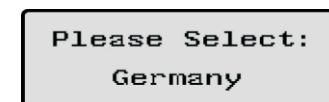

Fig 2-5-2
- B** Single knock on the LCD, countries will vary from one to another along the above list order. Fig 2-5-2 acts as an example, and Germany is the second selection.